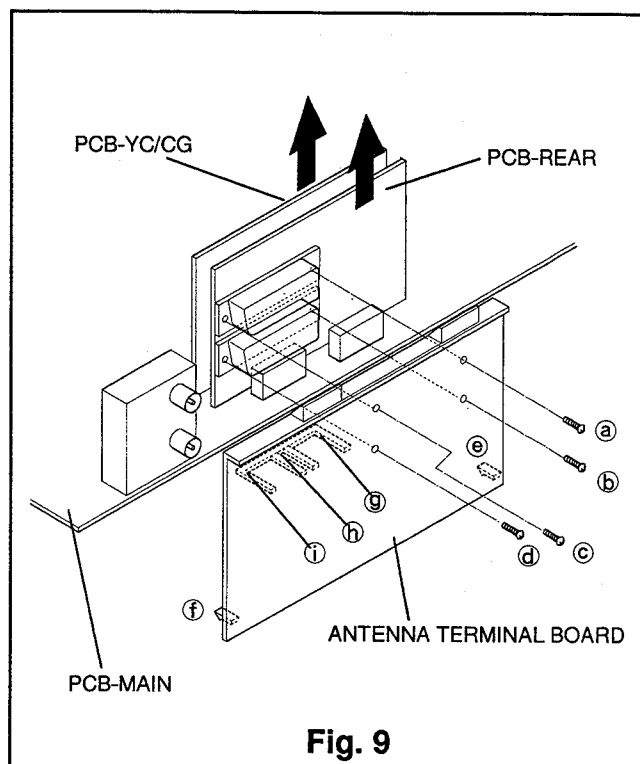

Fig. 9
- ① Remove the Top Cover referring to Para. 1 of the DISASSEMBLY.
- ② If it is necessary to remove the PCB-REAR, comply with the following steps.
- (1) Remove the PCB-MAIN referring to the preceding paragraph.
- (2) Remove four screws (a, b, c and d), unfasten five catches (e~i) on the Antenna Terminal Board as shown in Fig.9, and remove the Antenna Terminal Board.
- (3) Raise the PCB-REAR upward to remove it.
- ② Raise the PCB-YC/CG upward to remove it as shown in Fig.9.